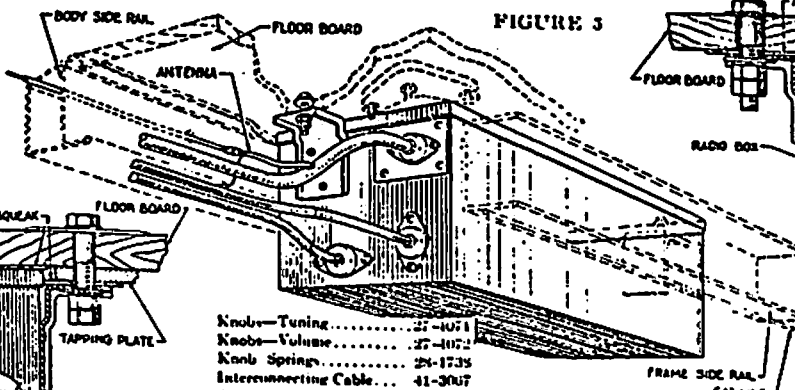

FIGURE 5
6. Figure 5 shows the method of mounting the radio receiver under the right-hand front seat stool mounting bolt with the 1-1/4" x 5/16" bolt provided in the radio package. The front bracket is secured to the floorboard using the bolt removed from where the rear bracket is mounted.
7. The antenna lead wire from the roof will be found in the under body side rail and should be connected to the antenna lead branch of the speaker cable, as shown in Figure 5. Make a twisted splice, using plenty of tape to insure a water tight joint, grounding the eye terminal on the end of the antenna lead pigtail to the body side rail.